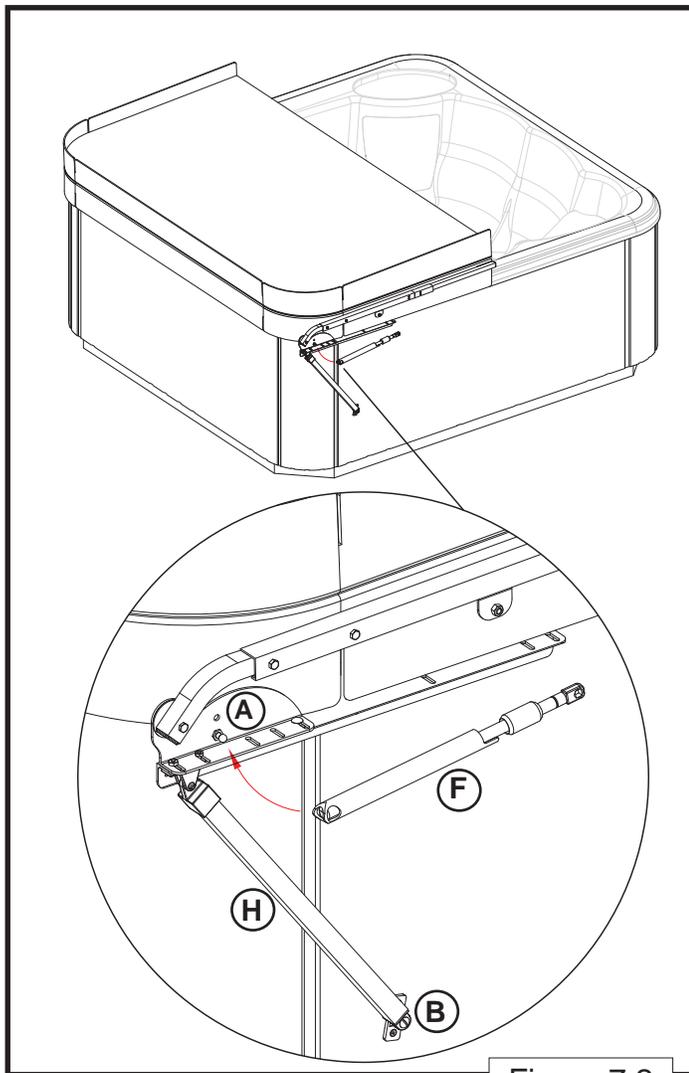

Figure 7.2
2. With the cover closed, snap the Gas Spring Lock end of the Gas Spring onto the lower ball stud (which is on the Base Bracket (A) (Figure 7.2).